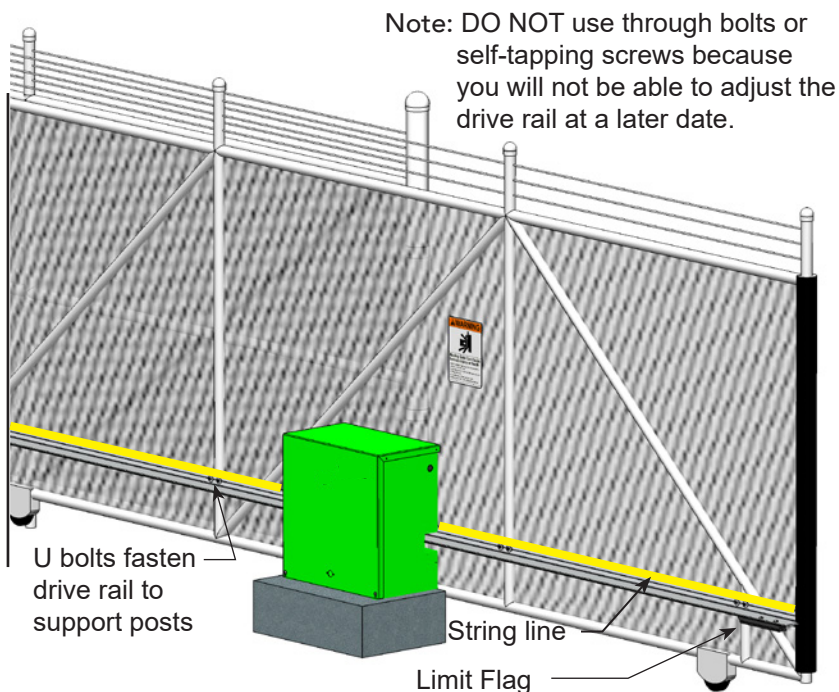

Figure 4. Set Drive Rail Depth
5. For reference, run a string line or laser along the entire length of the drive rail. Compare the edge of the drive rail with the string line or laser. Place shims between the upright support structure and drive rail to keep the drive rail straight (Figure 4).